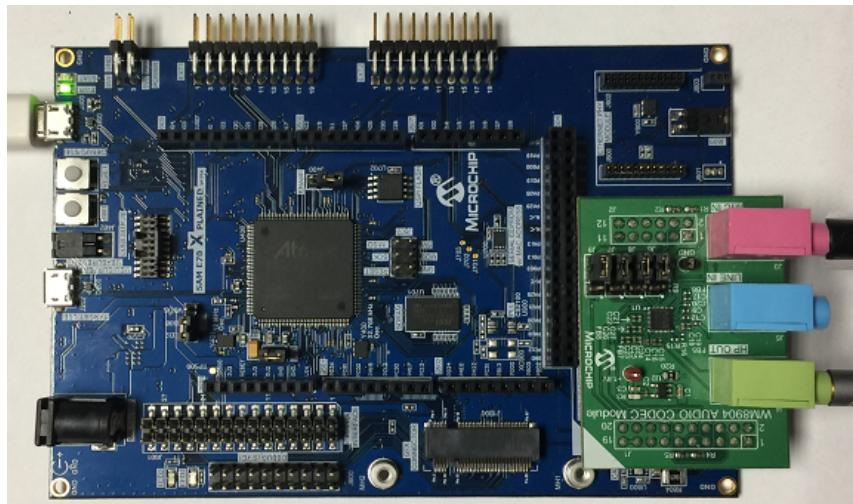

Figure 1: WM8904 Audio Codec Daughter Board on SAM E70 Xplained Ultra board
1. Connect headphones to the HP OUT jack of the WM8904 Audio Codec Daughter Board (see **Figure 1**), or the HEADPHONE jack of the SAM V71 Xplained Ultra board.
2. Connect a microphone to the MIC IN jack of the WM8904 Audio Codec Daughter Board (see **Figure 1**), or the MICROPHONE jack of the SAM V71 Xplained Ultra board.